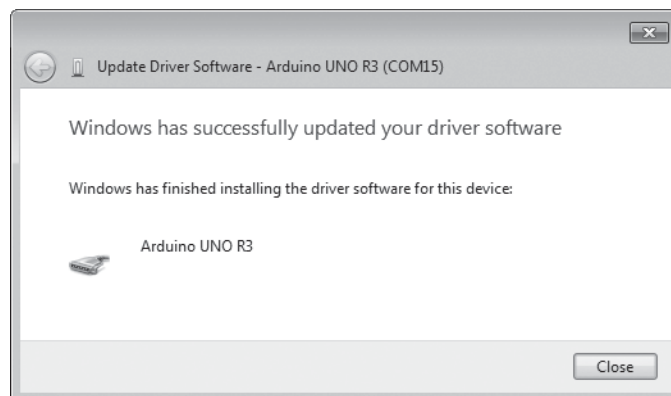

Figure 1-22: The drivers have been updated successfully.
4. Click **Next** in the dialog that follows. Windows may present a message stating that it “cannot verify the publisher of the driver software.” Click **Install this software anyway**. After a short wait, Windows will tell you that the driver is installed and the COM port number the Arduino is connected to, as shown in Figure 1-22.